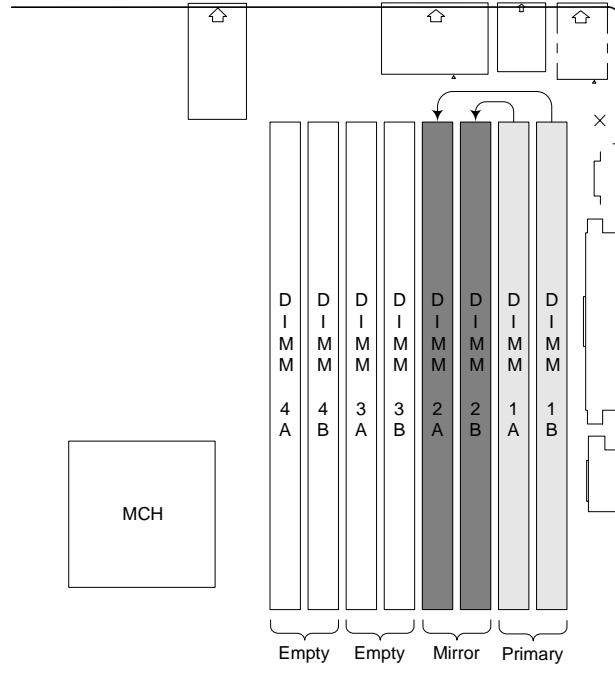

Figure 6. Four DIMM Memory Mirror Configuration
- Four DIMM population of identical devices (two per channel). Referring to Figure 6, the DIMMs in sockets 1A, 2A, 1B, and 2B must all be identical.